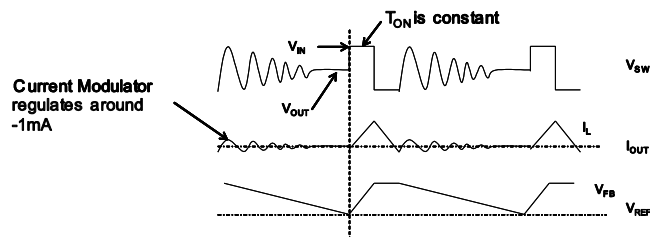

Figure 3—DCM operation
DCM operation is shown in Figure 3. When V_{FB} is below V_{REF} , the HS-FET is turned on for a fixed interval, which is determined by the one-shot on timer. See Equation (1). When the HS-FET is turned off, the LS-FET is turned on until the inductor current reaches zero. In DCM operation, V_{FB} does not reach V_{REF} when the inductor current approaches zero. The LS-FET driver turns into tri-state (high Z) when the inductor current reaches zero. A current modulator takes over the control of the LS-FET and limits the inductor current to less than -1 mA. Hence, the output capacitors discharge slowly to GND through the LS-FET. As a result, the efficiency at light-load is improved greatly. The HS-FET is not turned on as frequently during a light-load condition as it is during a heavy-load condition (skip mode).